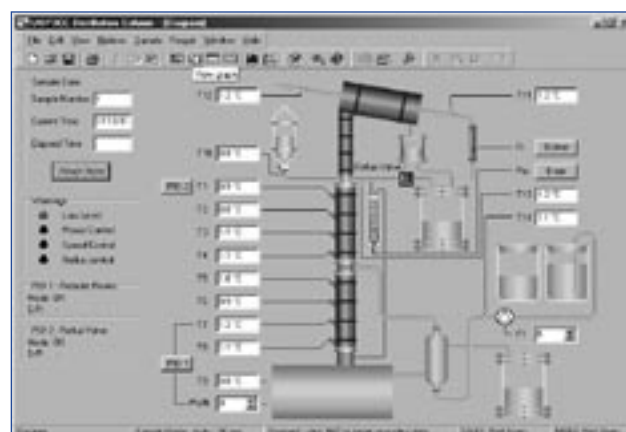

Fig. 8:
- the on-line use of mimic diagrams (Fig. 8 - bottom of page)